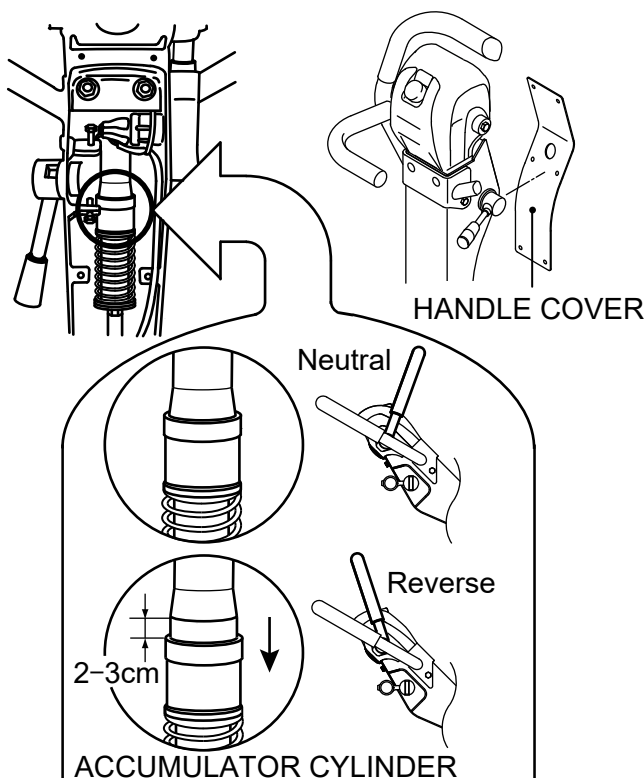

Figure 29. Air Bleeding Complete
13. Air bleeding is completed when the accumulator cylinder of the hand pump moves 2 - 3 cm as shown in Figure 29.